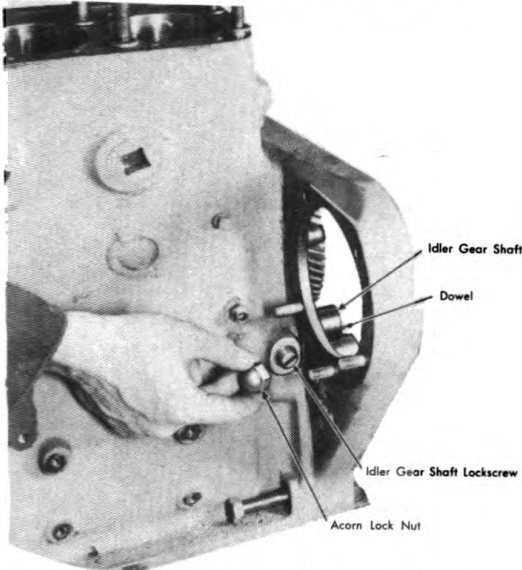
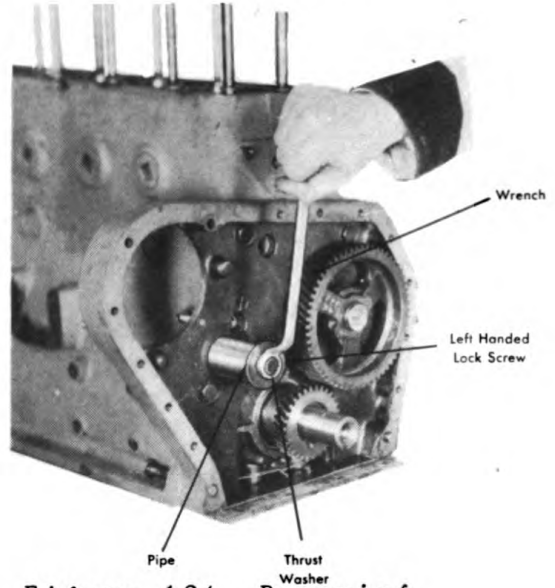

Figure 123. Removing Acorn Lock Nut.
Figure 124. Removing Idler Gear Shaft.
19. Unscrew the idler gear shaft lockscrew by first removing the acorn nut shown in Figure 123. The shaft can be pulled out with a short piece of pipe, as shown in Figure 124, with the original capscrew and washer.